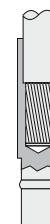

Fig. 1
- ❖ Assemble the contact onto the end of the cable – make sure all the strands are within the crimp body. The cable insulation should also go inside the crimp barrel – see Figure 1.